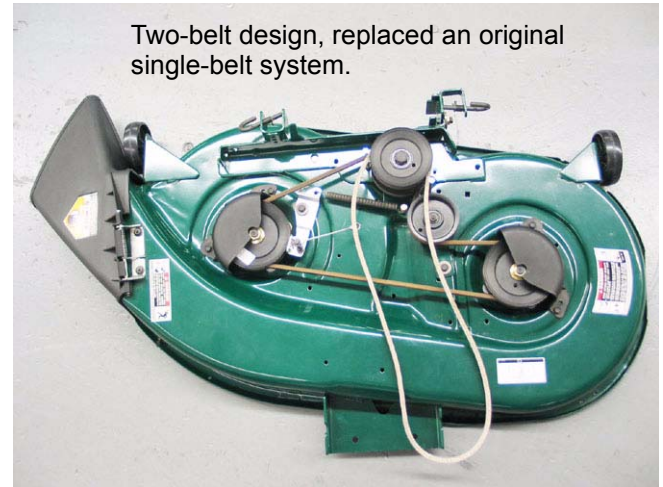

Figure 2.1
2.1. The single-belt design replaces a two-belt design. See Figure 2.1.